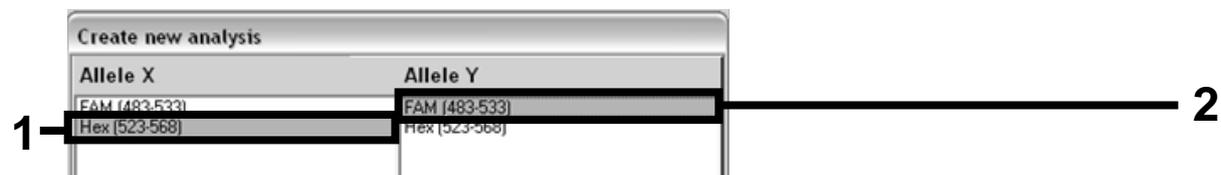

Figure 24. Selecting fluorescence for "Allele X" and "Allele Y".
15. In the next window, select "Hex" (i.e., VIC) fluorescence for "Allele X" and "FAM" fluorescence for "Allele Y" (Figure 24).